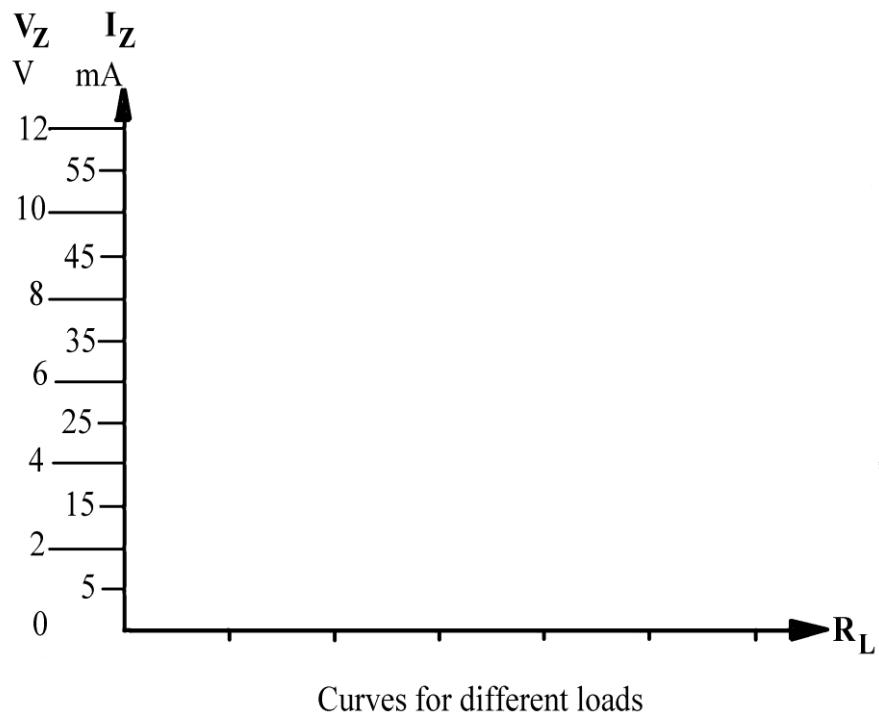

Figure 5
- Using the results shown in Table 3, plot the following curves on Fig. 5.